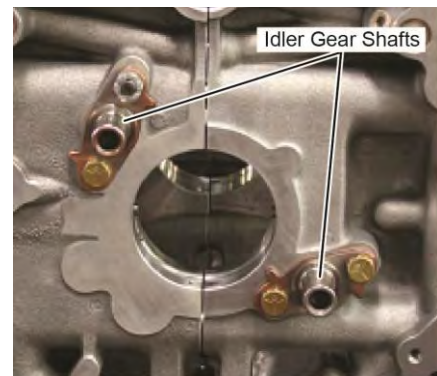

Figure 18
- (2) Remove the nut and three bolts (Figure 18) that attach the crankshaft idler gear shafts to the crankcase halves.
- (3) Remove the two idler gear shafts from the rear of the crankcase halves (Figure 18).